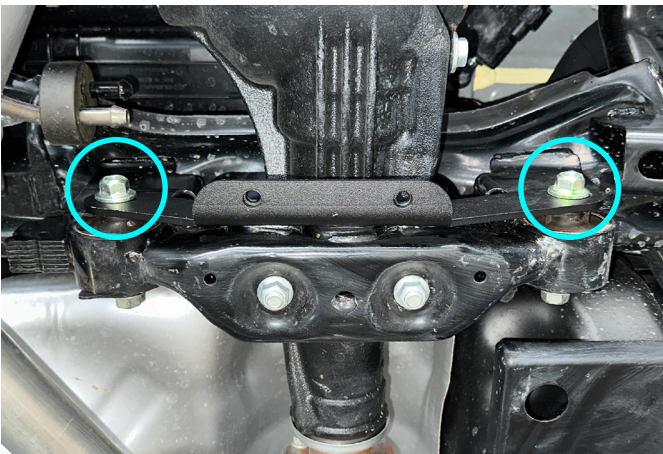

Fig. 3
3. Install the front bracket (item 2) using factory hardware as shown in Fig.3.